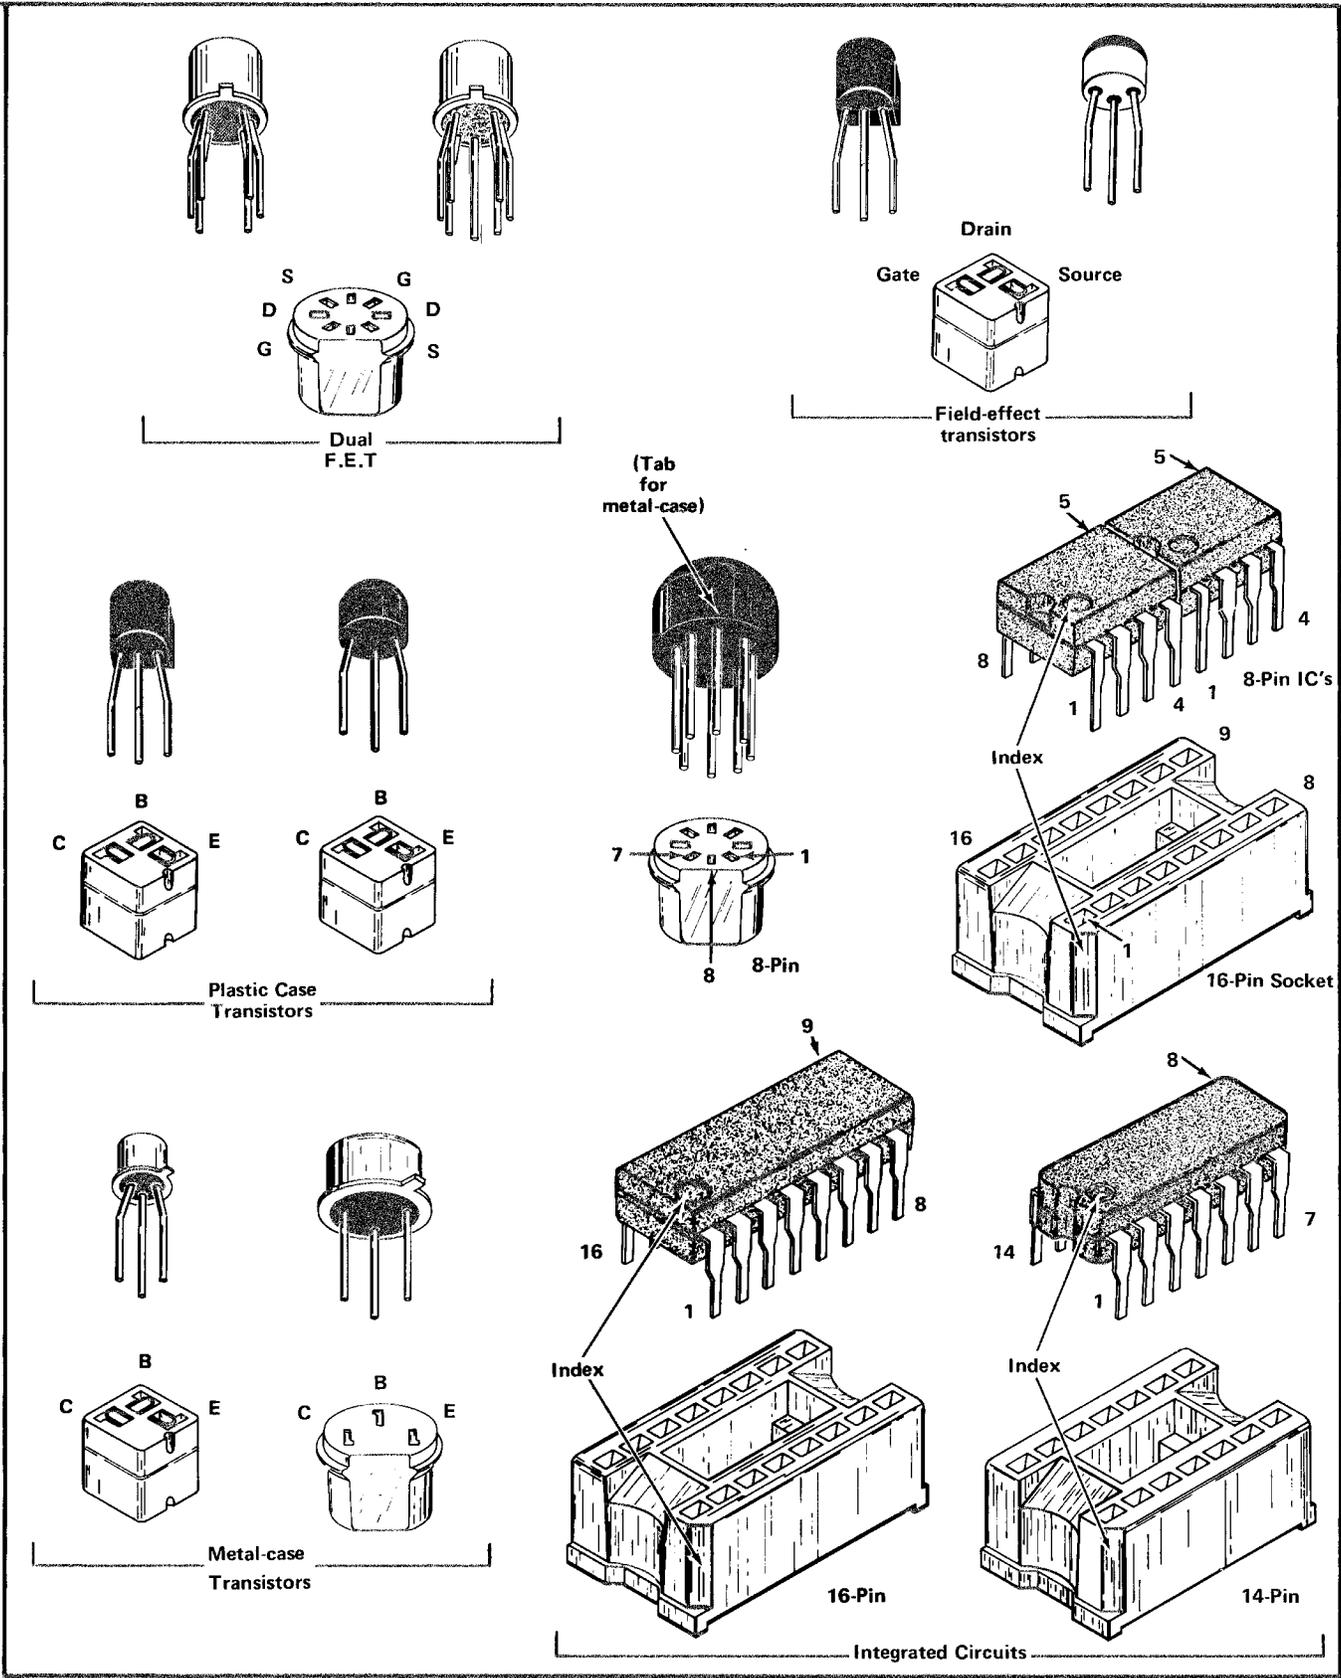

Fig. 4-1. Electrode configuration for semiconductors used in this instrument.
Semiconductor Lead Configuration. Fig. 4-1 shows the lead configuration of the semiconductor devices used in this instrument.
A. TRANSISTORS AND INTEGRATED CIRCUITS. The best check of transistor and integrated circuit operation is actual performance under operating conditions. If a transistor or integrated circuit is suspected of being defective, it can best be checked by substituting a component known to be good; however, be sure that circuit conditions are not such that a replacement might also be damaged. If substituting transistors are not available, use a dynamic tester (such as Tektronix Type 576). Static-type testers may be used, but since they do not check operation under simulated operating conditions, some defects may go unnoticed. Fig. 4-1 shows base pin and socket arrangements of semiconductor devices. Be sure the power is off before attempting to remove or replace any transistor or integrated circuit.